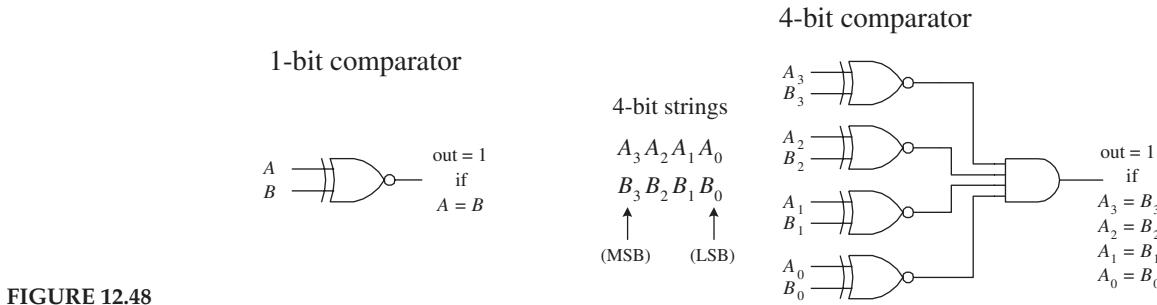
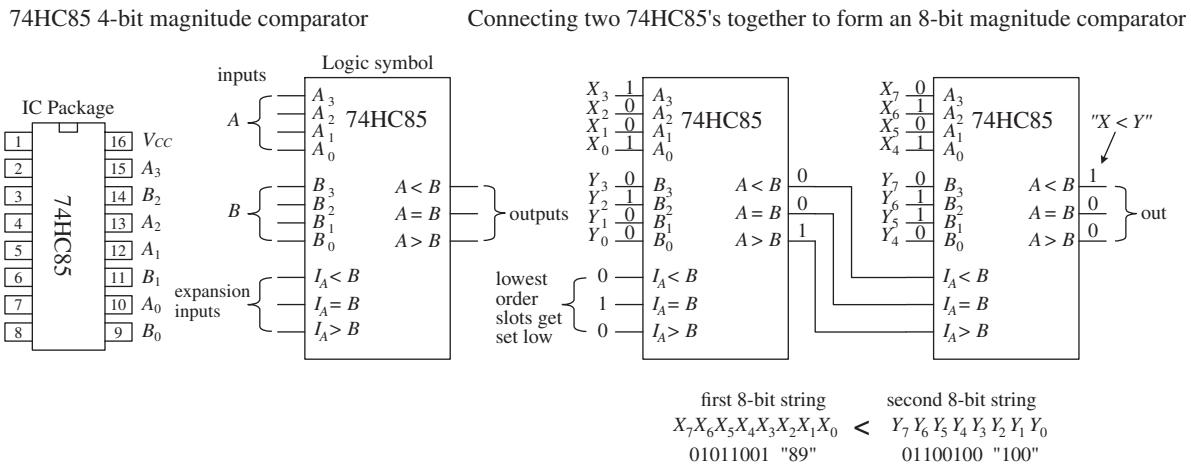

FIGURE 12.48
FIGURE 12.49
A digital comparator is a circuit that accepts two binary numbers and determines whether the two numbers are equal. For example, Fig. 12.48 shows a 1-bit and a 4-bit comparator. The 1-bit comparator outputs a high (1) only when the two 1-bit numbers  $A$  and  $B$  are equal. If  $A$  is not equal to  $B$ , then the output goes low (0). The 4-bit is basically four 1-bit comparators in one. When all individual digits of each number are equal, all XOR gates output a high, which in turn enables the AND gate, making
Now, say you want to know which number,  $A$  or  $B$ , is larger. The circuits in Fig. 12.48 will not do the trick. What you need instead is a *magnitude comparator* like the 74HC85 shown in Fig. 12.49. This device not only tells you if two numbers are equal, but also which number is larger. For example, if you apply a 1001 ( $9_{10}$ ) to the  $A_3A_2A_1A_0$  inputs and a second number 1100 ( $12_{10}$ ) to the  $B_3B_2B_1B_0$  inputs, the  $A < B$  output will go high (the other two outputs,  $A > B$  and  $A = B$ , will remain low). If  $A$  and  $B$  were equal, the  $A = B$  output would have gone high, and so on. If you wanted to compare larger numbers—say, two 8-bit numbers—you simply cascade two 74HC85 comparators together, as shown on the right side of Fig. 12.49. The leftmost 74HC85 compares the lower-order bits, while the rightmost 74HC85 compares the higher-order bits. To link the two devices together, you connect the output of the lower-order device to the expansion inputs of the higher-order device, as shown. The lower-order device's expansion inputs are always set low ( $I_A < B$ ), high ( $I_A = B$ ), and low ( $I_A > B$ ).